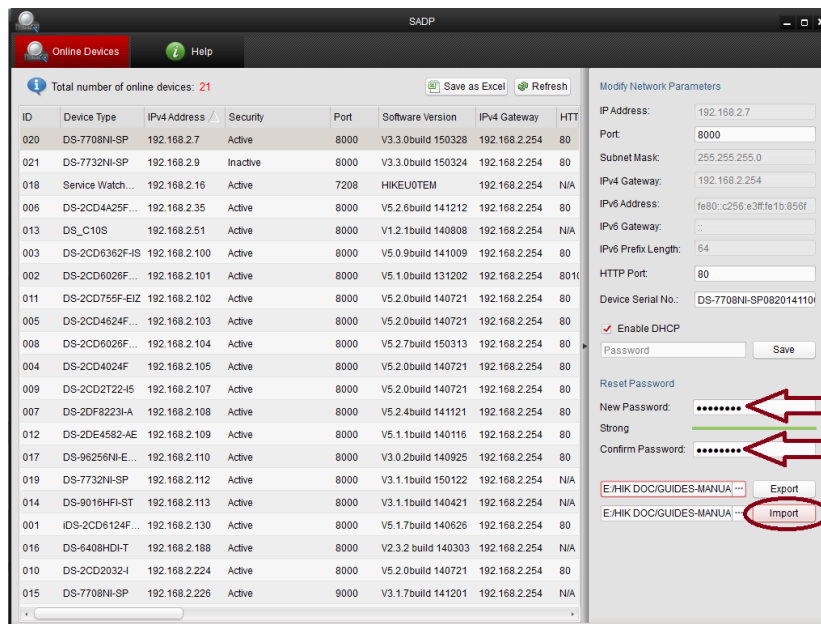

Figure 121 Set up a password by clicking [New Password] and [Confirm Password], then click [Import]
- After the password has been entered and confirmed, click **[Import]** (Figure 121) to import the "Encrypt.xml" file you received and saved from Hikvision Technical Support.